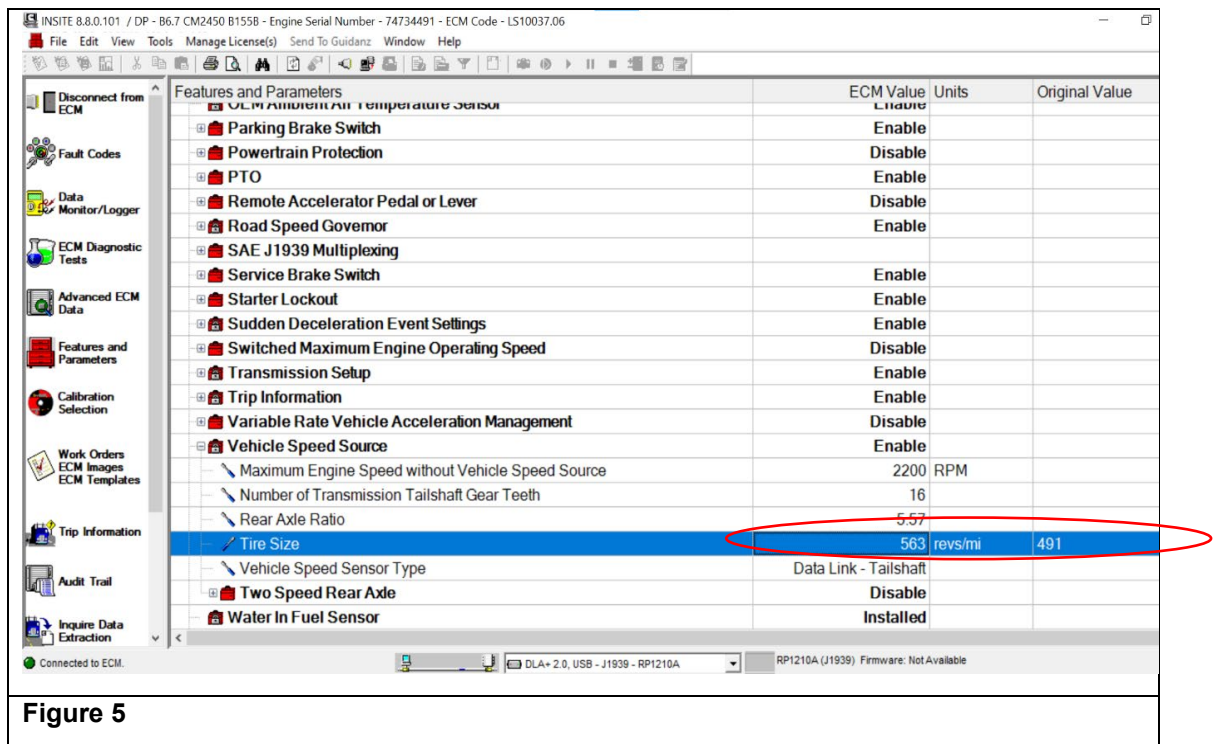

Figure 5
9. Change the Tire Size calibration from 491 revs/mile (current ECM Value) to: **563 revs/mile (low profile tire size value)**. (See Figure 5.)